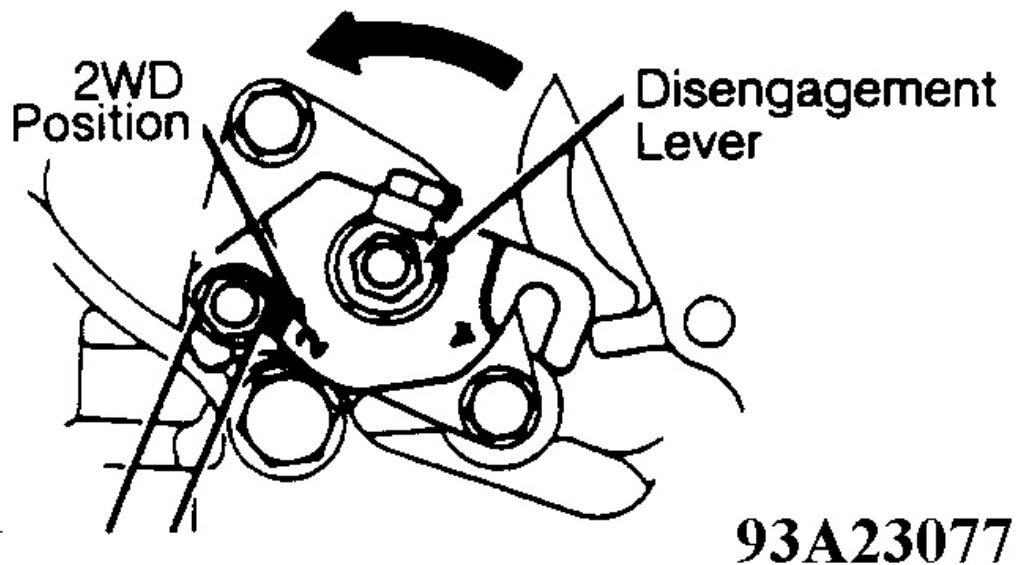

Fig. 40: Disengaging Transfer Unit
1. Disengage transfer unit by rotating disengagement lever counterclockwise and placing lever in 2WD position. See **Fig. 40**.